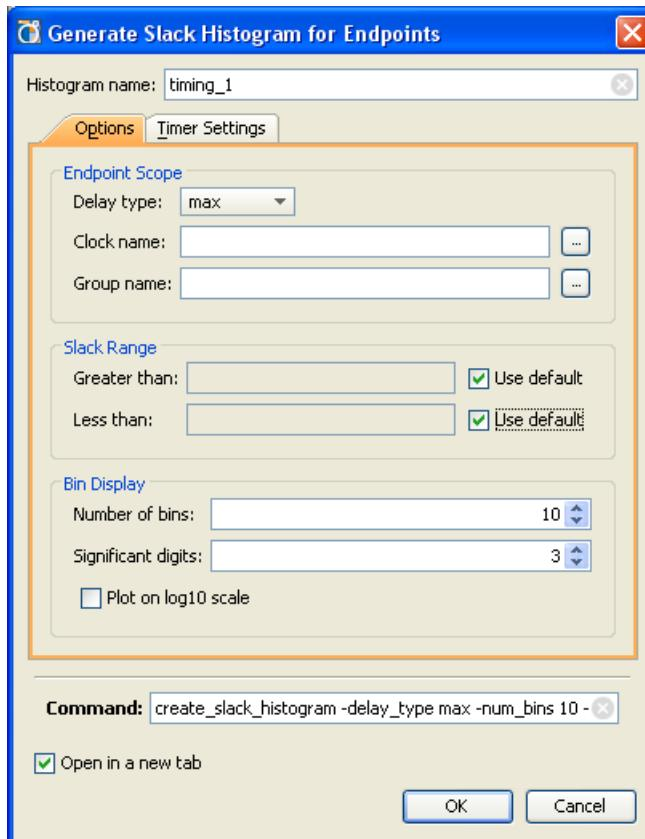

Figure 7-19: Generate Slack Histogram for Endpoints: Options Tab
2. The Generate Slack Histogram dialog box opens, as shown in Figure 7-19, page 247.
You can specify the options used to generate the histogram using the Options tab of the Generate Slack Histogram dialog box. Figure 7-19 shows the Options tab.